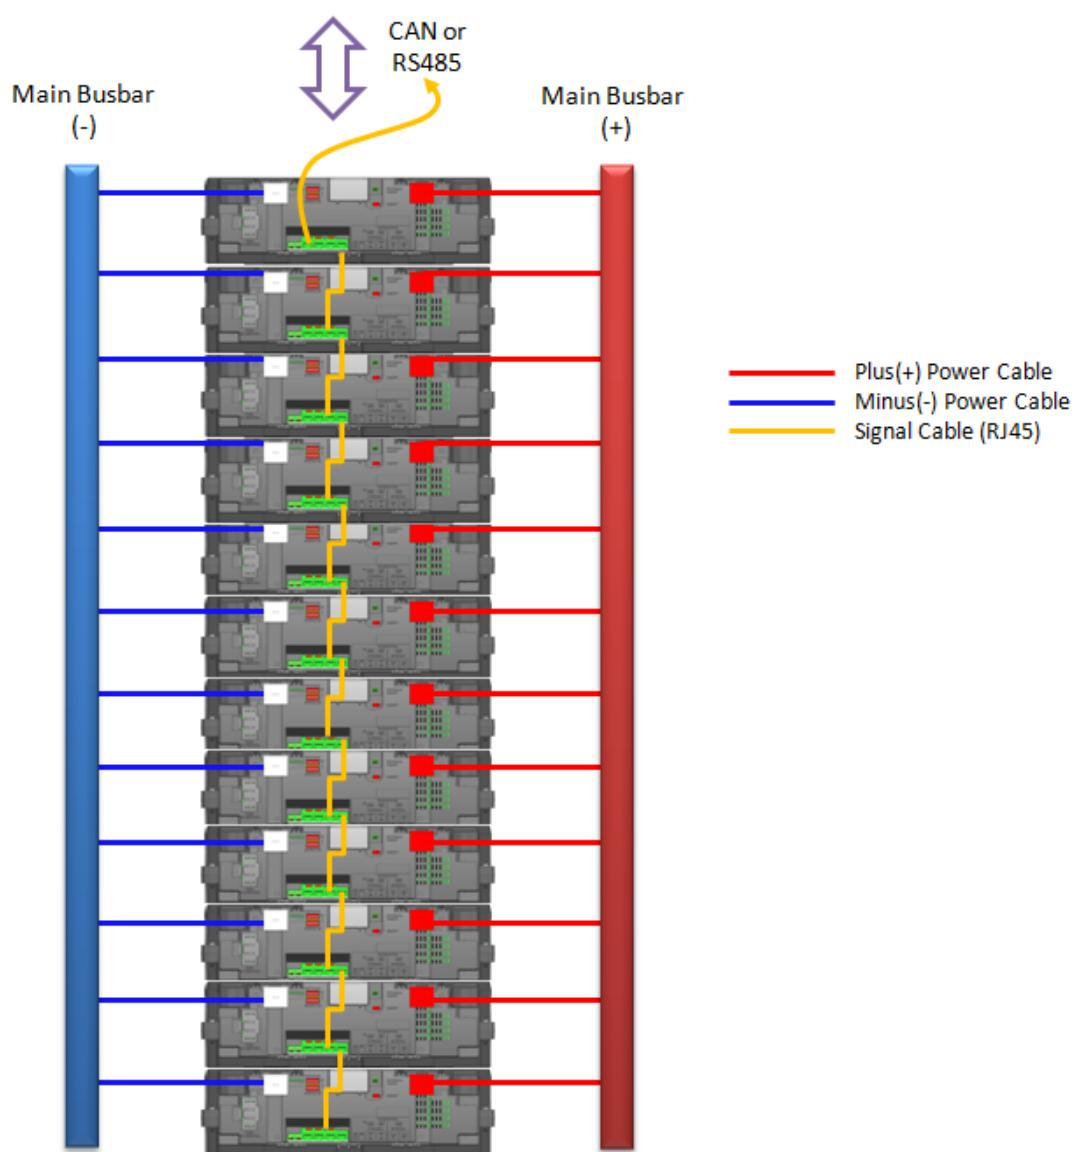

Figure 29 : Fully installed ESS configuration
- (4) Replace battery module.
- (5) Connect the signal connector and power cable of defective module.
- (6) Power ON modules in system. Fully installed ESS is shown as below in Figure 29